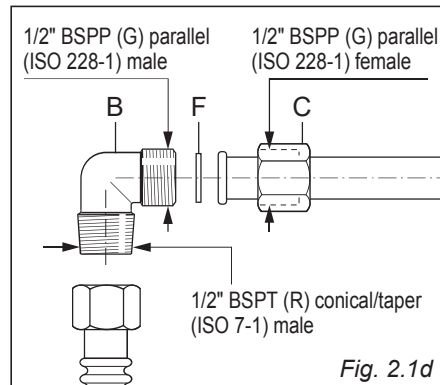
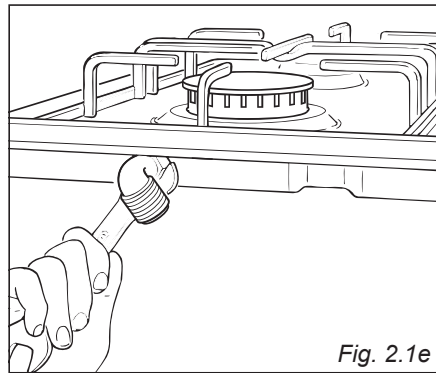

Fig. 2.1d
Fig. 2.1e
The fitting (fig. 2.1d) is made up of:
- The gas inlet union can be turned in the direction required after the elbow fitting "B" and nut "C" connection (figure 2.1d) has been slackened (fig. 2.1e).
- The gasket (sealing washer) "F" (fig. 2.1d) guarantees the seal of the gas connection. It is recommended that it be replaced whenever it shows even the slightest deformation or imperfection.